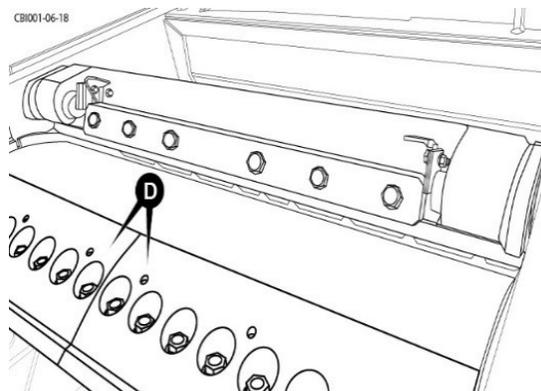

Figure 6.7 - Knife horizontal
3. Rotate Rotor - Rotate the rotor so that the knife for the pocket being serviced is horizontal (Figure 6.7 / D). Lock the rotor in position. This is important so the knife does not accidentally slide out when the clamp is loosened.